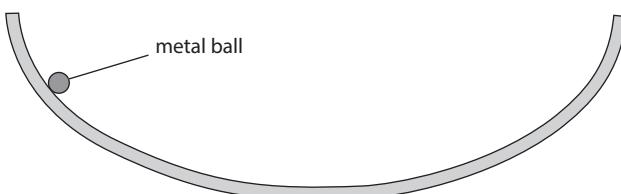

Figure 5
- 5 A student investigates the time taken for metal balls to stop moving after being released on a curved track. Figure 5 shows the shape of the track. The track is flexible, so the shape of the curve can be changed.
You may add to the diagram in Figure 5 if it helps your explanation.